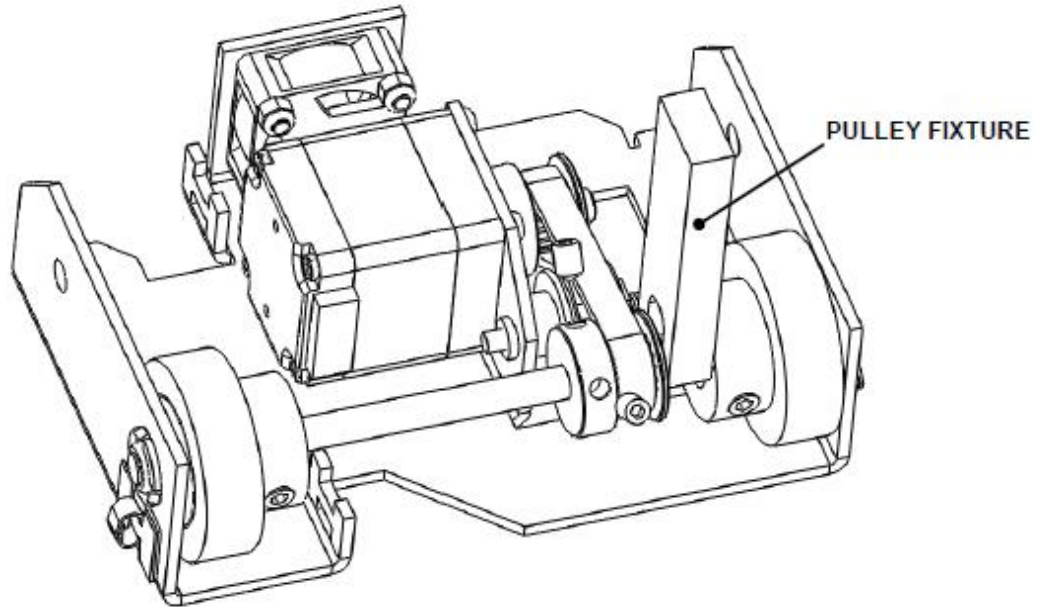

Figure I-13: Using the Pulley Fixture
4. Position the drive pulley on the shaft using the Pulley Fixture so that it lines up with the pulley attached to the motor (Figure I-13). Fix the pulley in place using two M4x6 Set Screws and Loctite 222.